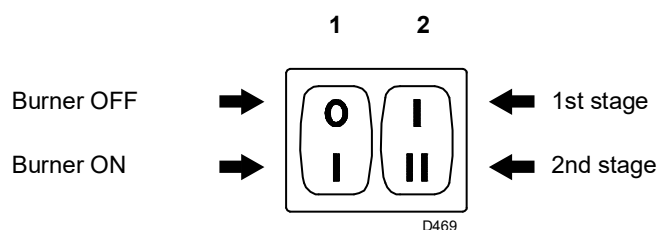
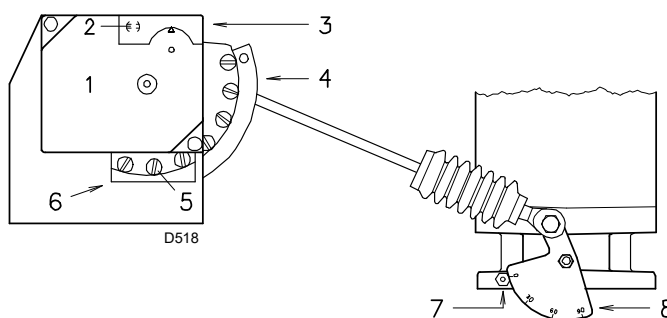

Fig. 22
Fig. 23
- switch 1)(Fig. 22) in "**BURNER ON**" position;
- switch 2)(Fig. 22) in "**1st STAGE**" position.
In the above description, we left the burner running, operating in 1st stage. Now move switch 2)(Fig. 22 on page 23) to 2nd stage position: the servomotor will open the air damper and, at the same time, the gas butterfly valve at 90°.
Progressively adjust the end profile of cam 3)(Fig. 23) by turning the screws 5).
Move the switch 2)(Fig. 22 on page 23) in "1st STAGE" position: the servomotor 1)(Fig. 23) will close the air damper and, at the same time, will also close the gas butterfly valve to 15°, i.e. to the factory setting.
- If it is necessary to increase it, pass to 2nd stage by activating switch 2)(Fig. 22 on page 23) and slightly increase the angle of the orange lever with small, regular movements, i.e. bring it from an angle of 15° to 17° - 19°... Then go back to 1st stage and measure the gas delivery.
Progressively adjust the initial profile of the cam 3)(Fig. 23) by turning the screws 4). If possible, do not turn the first screw, since this is used to set the air damper to its fully closed position.
Turn off the burner using the switch 1)(Fig. 22 on page 23) and turn the intermediate screws of the cam so that the cam tilt is progressive.